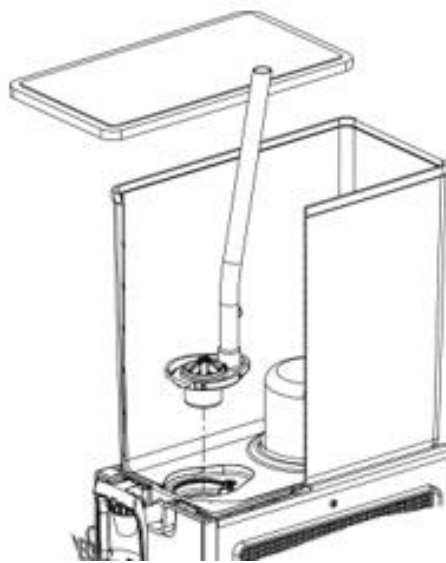

FIGURE 4.3
- D. **INSTALLING SPRAY TUBE ASSEMBLY:** Place Spray Tube Assembly down into designated sump well in base of Bowl (reference INSTALLATION DIAGRAMS, FIGURE 4.3, p5). Make sure Spray Tube is pressed down far enough into sump well that it “snaps” into place.
7. Place Spray Tube Assembly down into designated sump well in base of Bowl (reference INSTALLATION DIAGRAMS, FIGURE 4.3, p5). Make sure Spray Tube is pressed down far enough into sump well that it “snaps” into place.